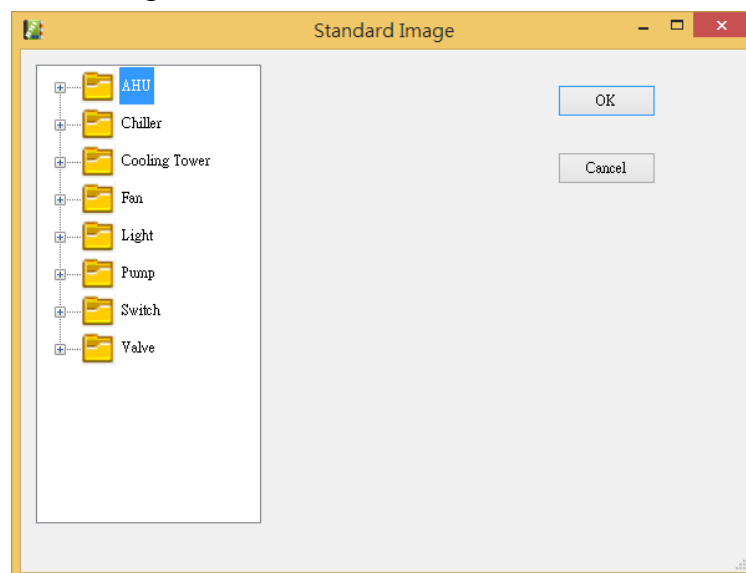

Figure 4-4 Standard Graphic Gallery Settings window
- 2 Open the standard gallery : In setting of the page background, or the picture button control items and other settings window, click the "standard library" button, may open its corresponding standard library, as show in figure 4-4. In addition to providing users with the desired image, this window also provides easy classification management.